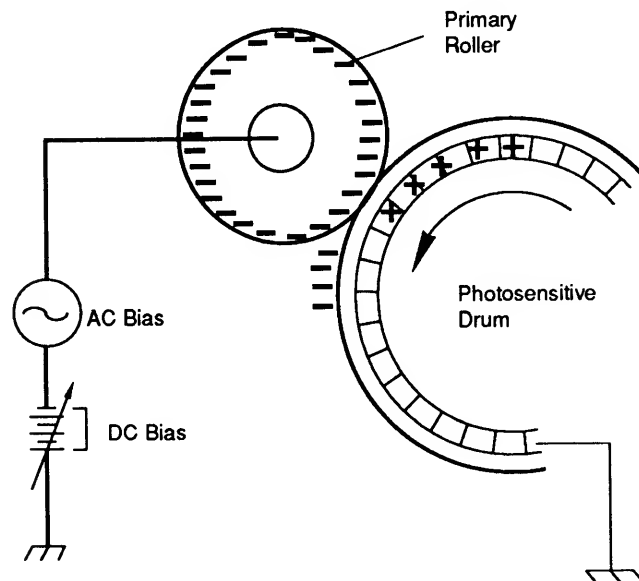

Figure 1-18 Primary Charge Application
1. **Primary Charge:** In this step, the primary roller, composed of conductive rubber, applies a uniform layer of negative charge over the drum surface (**Figure 1-18**). The print density adjustment lever controls the difference in potential between the photosensitive drum and the primary roller. The lever allows you to adjust for lighter or darker images.